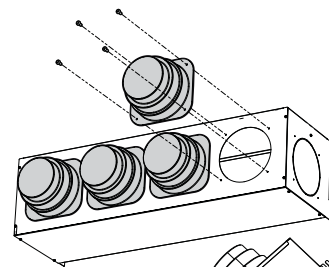

Fig.1
- Use the self-threading screws to fasten the flanges on the PM_V plenum (fig.1).